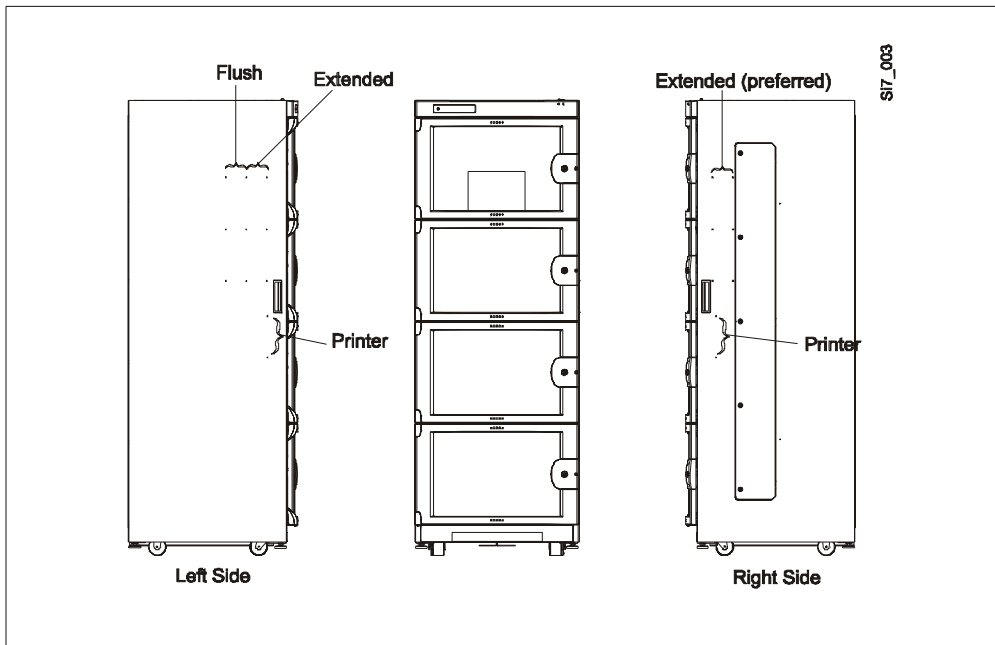
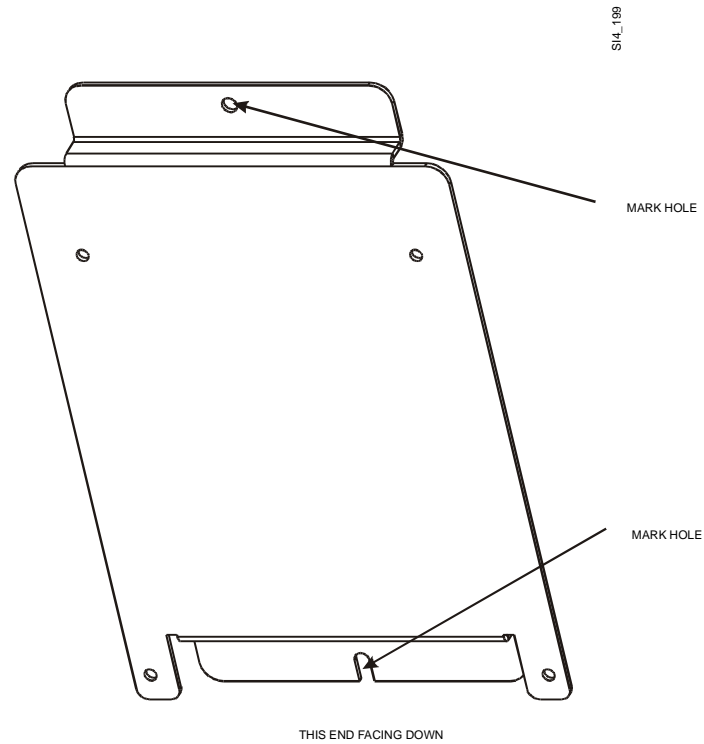

Figure 2 SST Printer Knockout Holes
Figure 3 Printer Wall Bracket Installation
Refer to Figure 3 for this procedure. Determine the desired height and location of printer mounting. The printer wall bracket (Item 1) is used as a template for locating the mounting holes on MedSelect modules. On SupplySource cabinets (see Figure 2), two knockout holes are located on each side that are to be used for mounting the printer. Be sure that the printer is located within reach of a power outlet. Take into consideration the length of the power cord and DC line for the AC/DC adapter.
1. The printer wall bracket (Item 1) is mounted with two screws. One screw hole in the bracket is slotted. Mark the location of the slotted hole only. Do not mark the top hole position yet. Figure 3 shows the proper orientation for the bracket for vertical mounting. (The slot will be on the top for vertical upside-down mounting.)